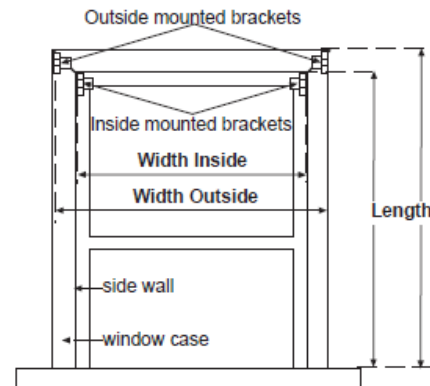
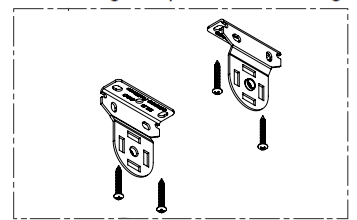

Figure 5. Measurements on a window
Figure 7. Install Brackets
Step 1. See **Figure 5**.
Step 5. Mount the brackets to the window casing according to the marked locations in **Figure 5** (see page 1). **Figure 7** shows the proper bracket placement options. The left and right Skyline brackets are identical so the clutch can be mounted on the left or the right side.